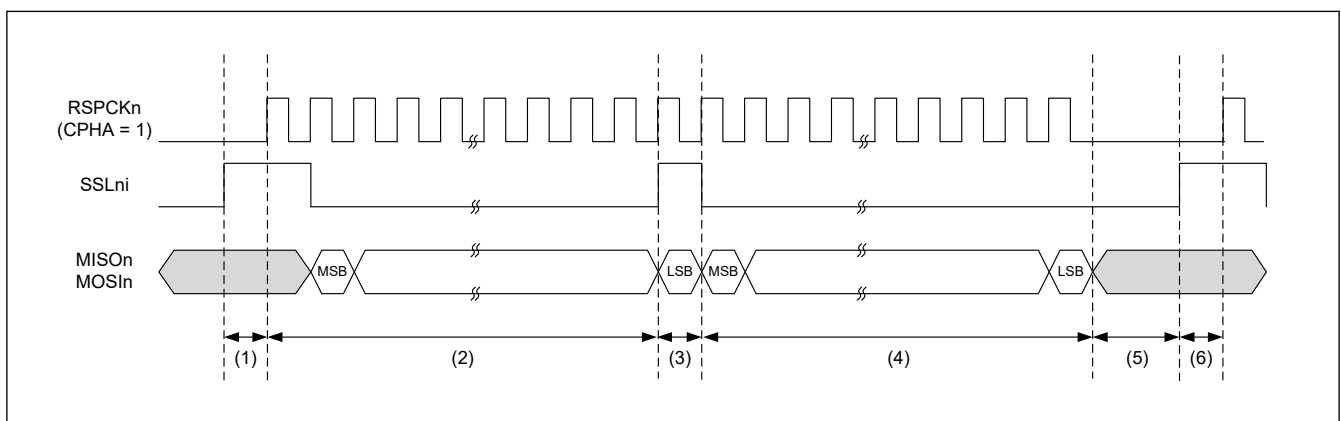

Figure 43.59 Example of Burst Transfer Operation (SPFRF = 1)
- When the SSLNi signal level holding bit (SSLKP) of the SPI command register (SPCMD) is 1 and the burst transfer frame delay selection bit (BFDS) of the SPI control register (SPCR) is 1, SPCMD0 to SPCMD1 are shown in Figure 43.59. The following shows an example of SSLNi signal operation and serial data MISO_n/MOSI_n when burst transfer is realized using the settings. The SSLNi output signal polarity depends on the set SPI SSLi signal polarity bit (SPCR3.SSLiP) ($i = 0$ to 3) value.